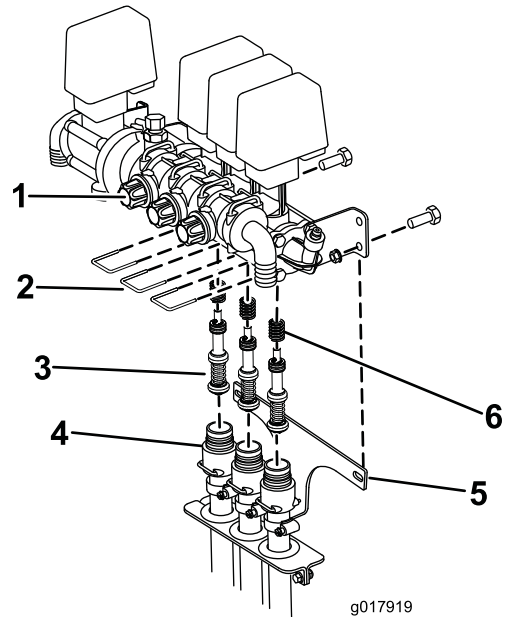

Figure 57
- Remove the 3 forks securing the valve seats to the valve assembly (Figure 57).
- Remove the 2 screws and nuts securing the hose loom bracket to the sprayer frame (Figure 57). Lower the hoses away from the valve assembly.
- Using a 3 mm Allen wrench, remove the screws securing the piston assemblies in the valve assembly. Make sure to account for the springs in the valve (Figure 57).